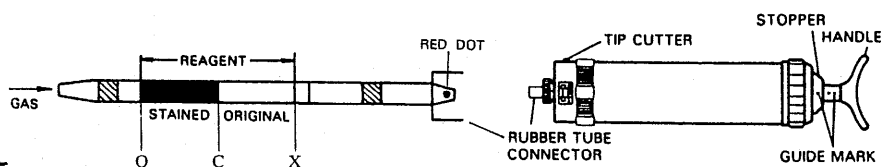

Fig. 1
2. And insert the tube end with red dot sealed on the detector tube into the rubber tube connector as shown in Fig. 1.